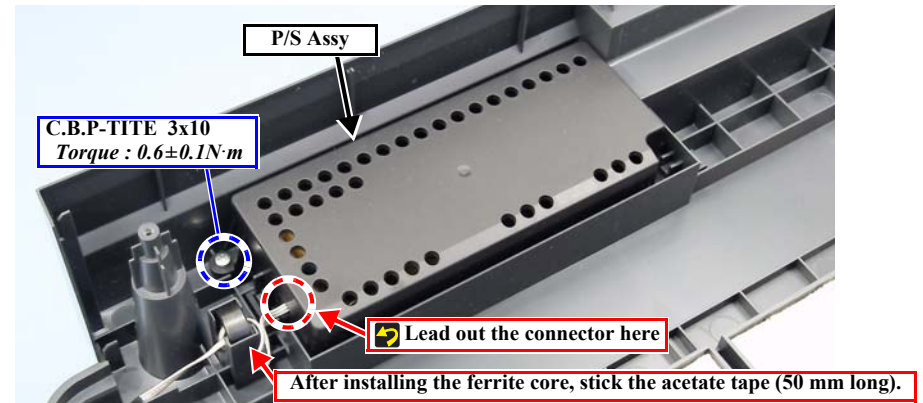

Figure 4-47. Removing the P/S Assy
1. Remove the screw securing the P/S Assy, and remove it from the Housing Lower. (Fig. 4-47)